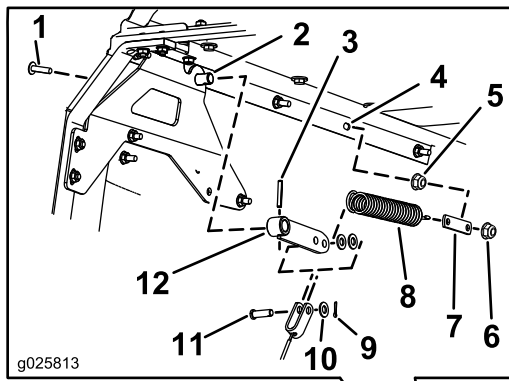

Figure 10
2. Mark and drill a 6.8 mm (9/32 inch) diameter hole through the hopper (Figure 10).
3. Install the spring link plate using a truss screw (1/4 x 1 inch), a serrated-flange nut (1/4 inch), and a locknut (1/4 inch) as shown in Figure 10.
10. Attach upper ends of cables to the door arm weldments using the washers (5/16 inch), clevis pins (5/16 x 1-49/64), and the cotter pins (3/32 x 1/2 inch) as shown in Figure 10.
13. On the left-hand side of the hopper, attach the spring to the link plate and door arm (Figure 10).